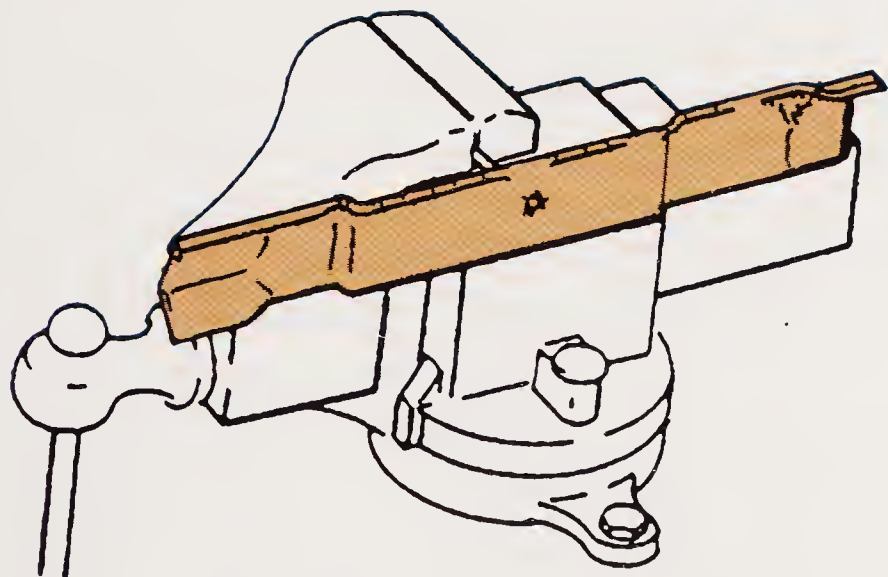

Figure 19-53. Balancing mower blade. (Deere & Co.)
- b. Put blade on nail in wall or vise. See **Figure 19-53**.